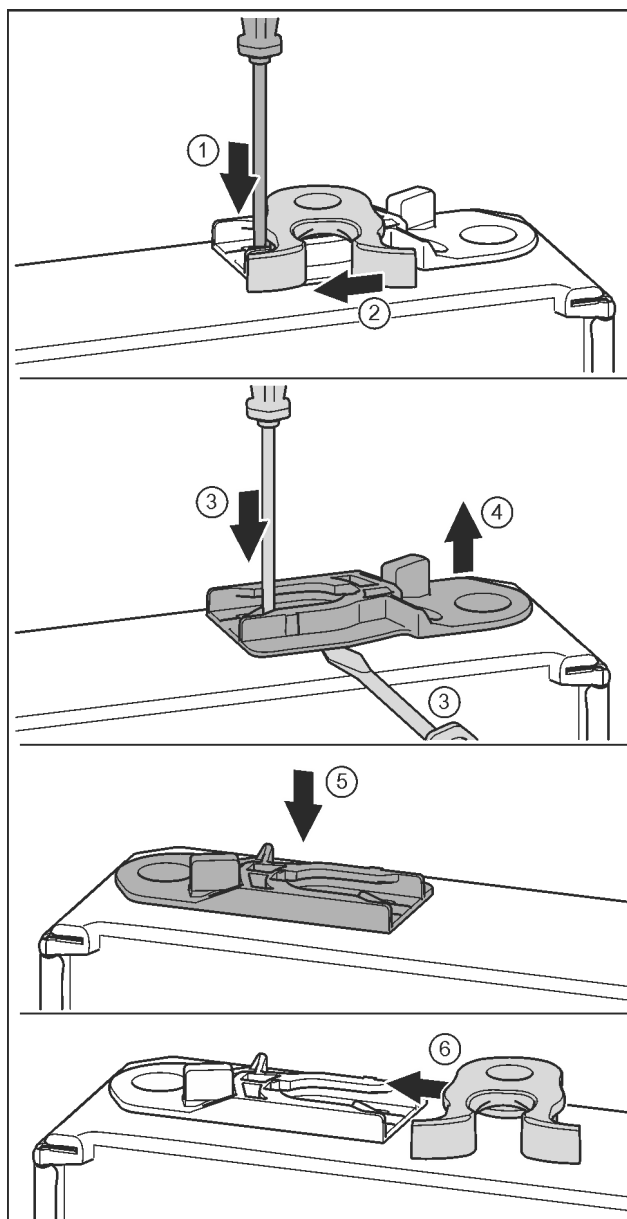

Fig. 19
- Push the tab downwards with a slotted screwdriver. *Fig. 19 (1)*
- Pull the door latch out of the guide. *Fig. 19 (2)*
- Pull out the guide bush: Press the tab with a slotted screwdriver and, at the same time, insert the slotted screwdriver under the guide bush. *Fig. 19 (3, 4)*
- Slide the guide bush included in the scope of supply to the other side of the housing. *Fig. 19 (5)*
- Push the door latch into the guide. *Fig. 19 (6)*